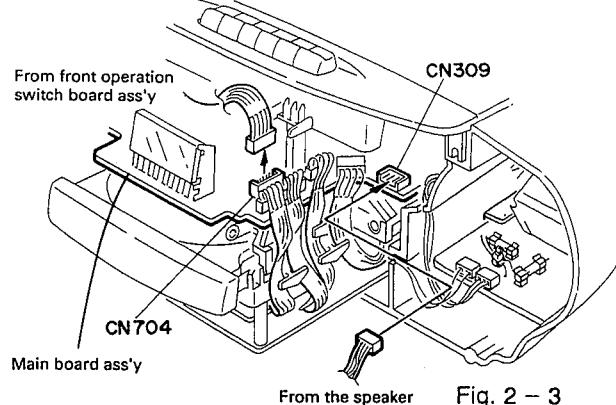

Fig. 2-3
- Remove the speaker harness coming from the front cabinet assembly and the operation switch board harness connected to the CN704 and CN309 connectors on the main PCB (Fig. 2-3).
- For removing the handle and top cover, extend the rear cabinet outwards (as indicated by the lateral arrows) and it is disengaged from the right and left fittings ⑤. Then, the handle can be removed in the direction of the arrow (rearwards).
1. Remove the handle (Fig. 2-3).